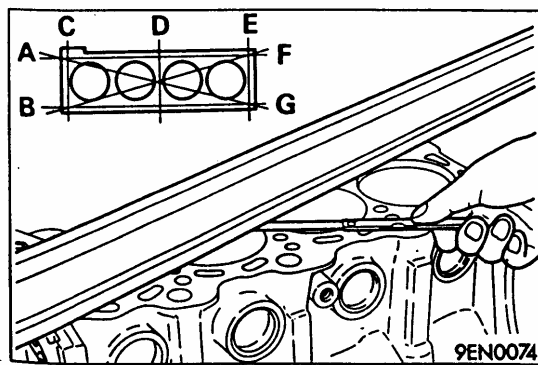

Fig.4-96
(1) Visually check for cracks, rust, and corrosion, and inspect the cylinder block using a flaw detecting agent. Rectify defects where possible or replace the cylinder block.
(2) Ensure that the top surface is free of gasket chips and other foreign material. Check the cylinder block's top surface for distortion using a straight edge and thickness gauge, see Fig.4-96.